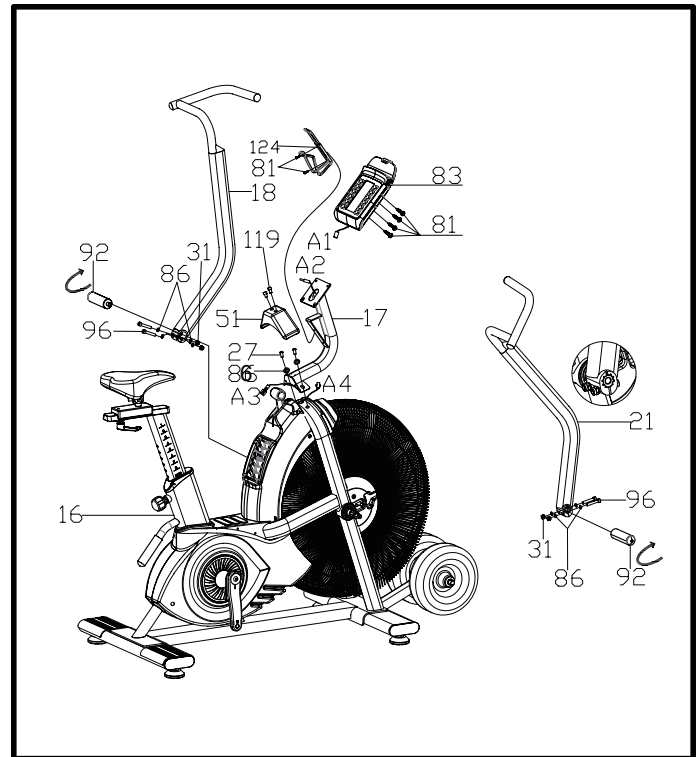

Fig. 3
STEP 3 (FIG.3):
1. Insert the Left Handlebar Assembly (18) and the Right Handlebar Assembly (21) into the Main Frame Assembly (16) as shown in the diagram.
2. Secure them in place using Bolts (96), Washers (86), and Nuts (31).
3. Attach the Pedal Screw (92) to the Main Frame Assembly (16).
4. Connect the plugs (A3 & A4), then attach the Display Assembly (17) to the Main Frame Assembly (16) using Bolt (27) and Washer (86).
5. Use Screw (119) to secure the Cover (51) to the Display Assembly (17).
6. Finally, connect the plugs (A1 & A2) and fix the Computer (83) onto the Display Assembly (17) using Screws (84).
NOTE: If there is no input from key operations or RPM signals within 4 minutes, the LCD will automatically switch to Sleep Mode (as shown in Figure 3).
(FIG 3)